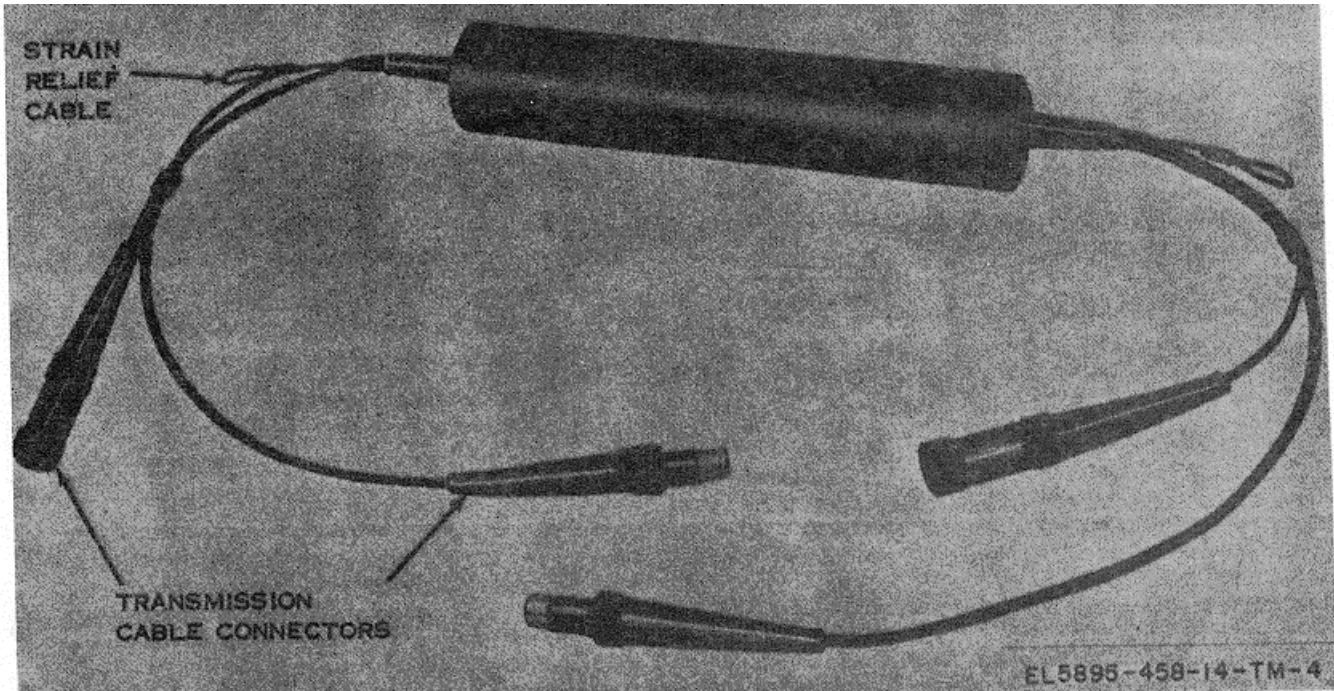

Figure 3-3. Restorer, Pulse Form TD-206/G.
a. Use. Restorer, Pulse Form TD-206/G (fig. 3-3) is a two-way unattended' repeater for pcm cable systems. It is installed at 1-mile intervals in the transmission cable to restore pcm pulse form and timing.